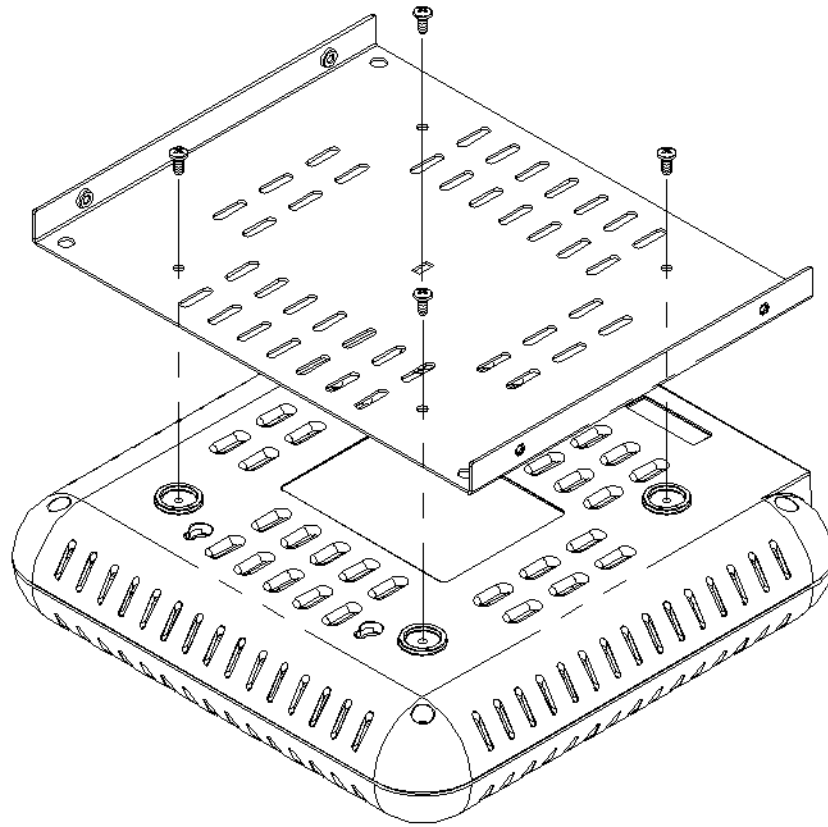

Figure 14: Installing Rear Mounting Plate
3. Fasten the Rear Mounting Plate to the bottom of the BSAP-1800 unit using the 4 #6x5/16" screws provided as shown in Figure 14. Over-tightening of screws, will cause stripping of threads formed in plastic.